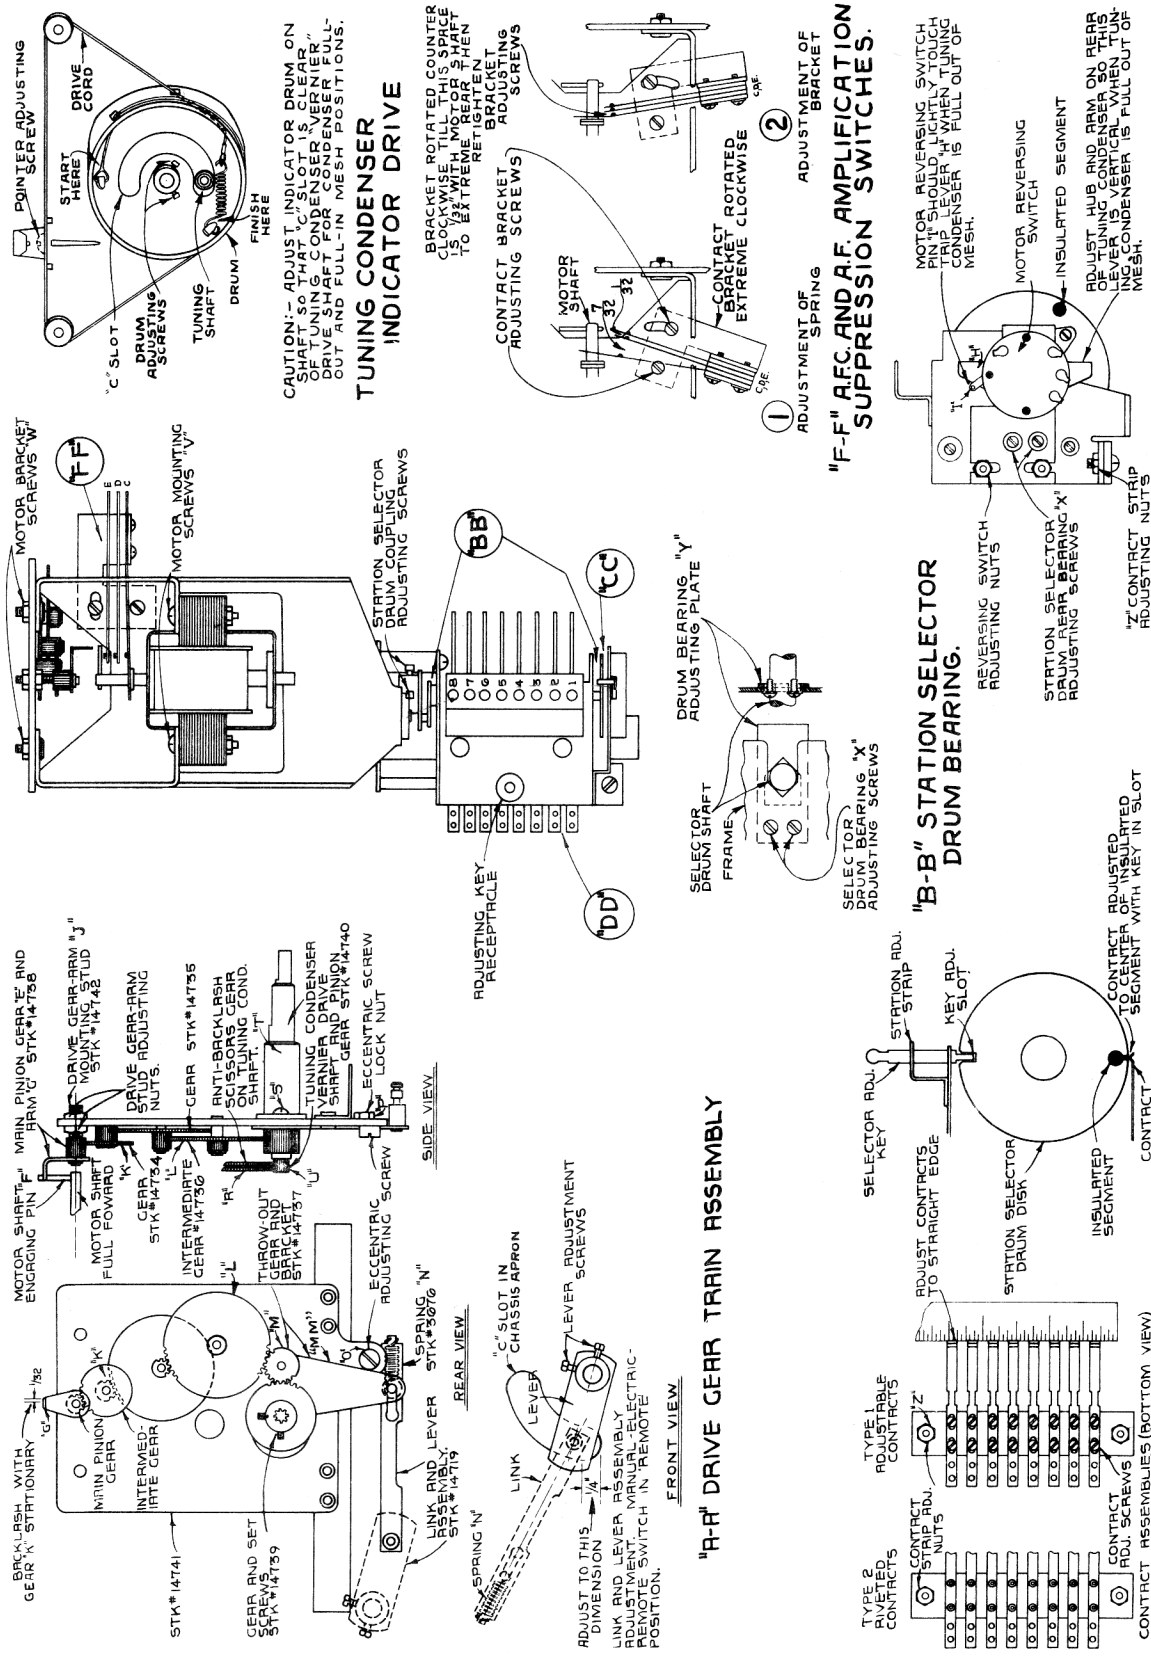

Figure 5—"Electric Tuning" Mechanism Adjustments
The electric tuning mechanism is designed to be as simple in construction and as fool proof in operation as is possible. In order to maintain the accurate results possible with this device care must be taken in effecting any repairs or adjustments. Reference should be made to figure 5 and the following:
Station Selector Drum.—(1) Bearing Adjustment—The selector drum may be removed by unscrewing the two bearing adjusting screws "X" on the front and rear bearings and sliding shaft out of slots on frame. To replace drum, the reverse procedure should be followed holding bearing adjusting plates "Y" firmly against the shaft and tightening adjusting screws. (2) Contact adjustment—Two types of contact strips are used. They are designated on figure 5, as types 1 and 2, on which the individual contacts are respectively adjustable and fixed. On type 1, the individual contacts should be adjusted by setting the end contact springs near the mid-position of their travel and aligning the remaining springs to them by means of a straight edge. Either type of